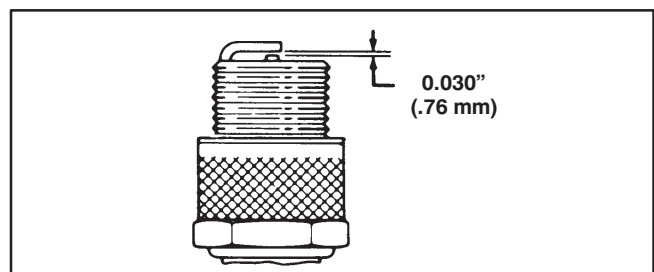

Figure 17
3. Set air gap at 0.76 mm (0.030") (Fig. 17). Install correctly gapped spark plug and gasket seal. Tighten plug firmly to 19 N·m (14 ft-lb).